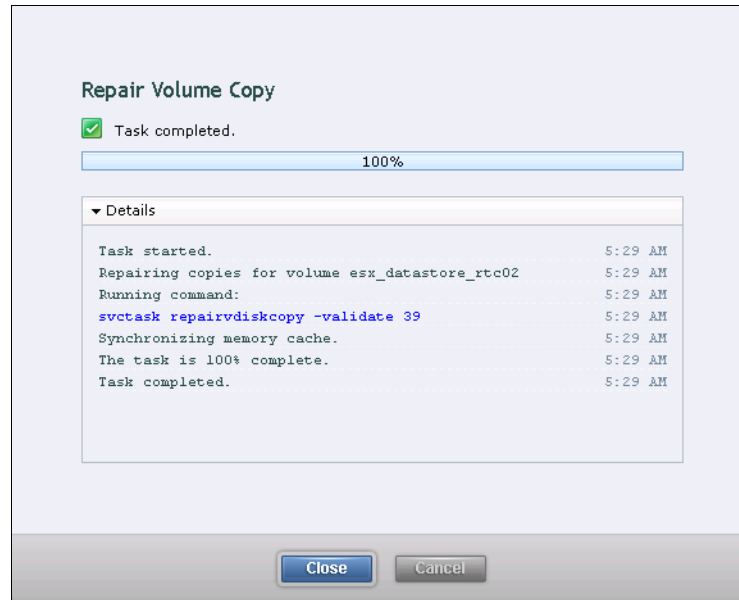

Figure 8-123 Repair Volume Copy task completion window
2. Select which action to perform and click **Validate** to start the task. The volume is now being checked. Click **Close** (Figure 8-123).